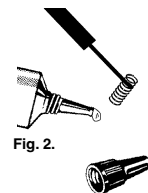

Fig. 1.
1. To pick up spring place it on the cloth (this allows the small springs to be seen and picked up easier) and insert 241 Dual Tool (Manual Uncoupling Tool & Spring Pic) into spring between coils near one end. See Fig. 1.